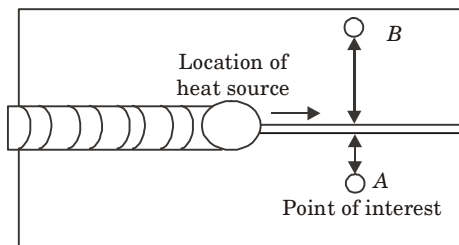

Fig. 3.1.2. Schematic of welding showing location of two points A and B.
4. Since distance of the point of interest away from the weld centre line directly affects all the above parameters heating and cooling rate, peak temperature of weld thermal cycle therefore each location N point offers different and unique weld thermal cycle as shown in Fig. 3.1.2.